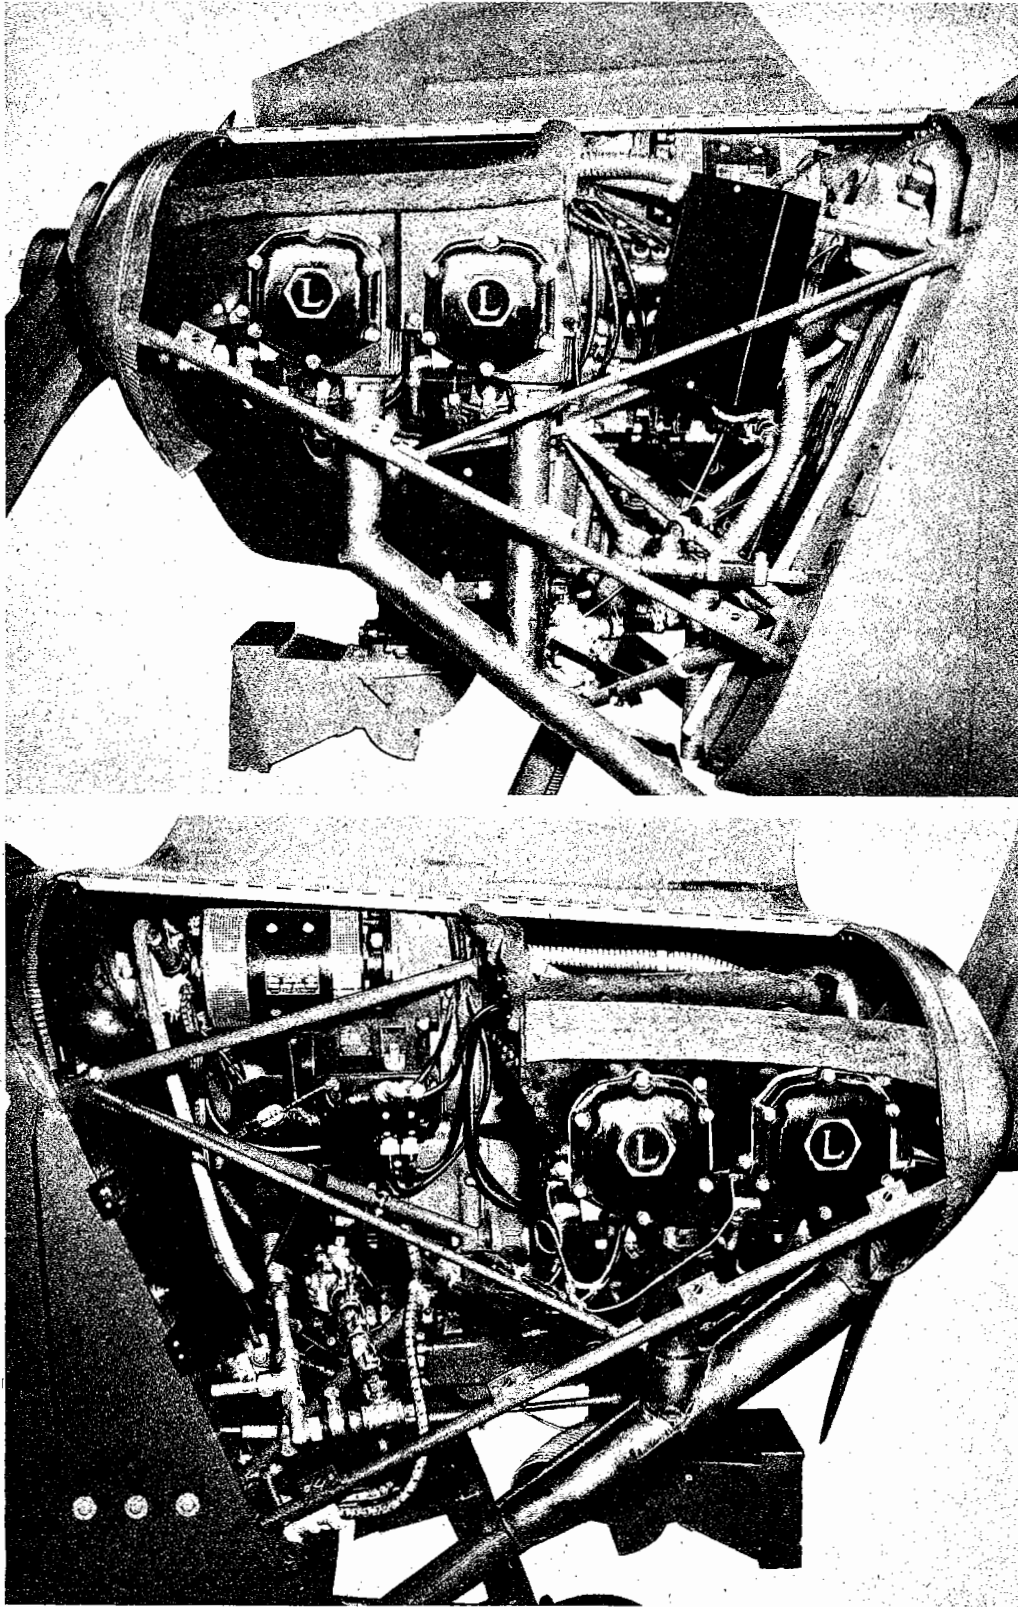

Figure 44—Left and Right View of Engine—PQ-8A
a. ENGINE. (See figures 44 and 45.)
(1) DESCRIPTION.—This airplane is equipped with a Lycoming 0-290-1 engine. The complete power plant section consists of the engine, engine mount, and accessories. The engine mount is of welded-steel tube construction to which the engine is attached by rubber shock mountings. Accessories include the generator, vacuum pump, and hydraulic pump. Fuel and hydraulic lines in the engine compartment are considered part of their respective systems and are detachable at the fire wall. The power plant section may be handled as a detachable unit.
(2) REMOVAL AND DISASSEMBLY INSTRUCTIONS.—The following instructions are given for the removal of the complete power plant and the accessories attached to it: